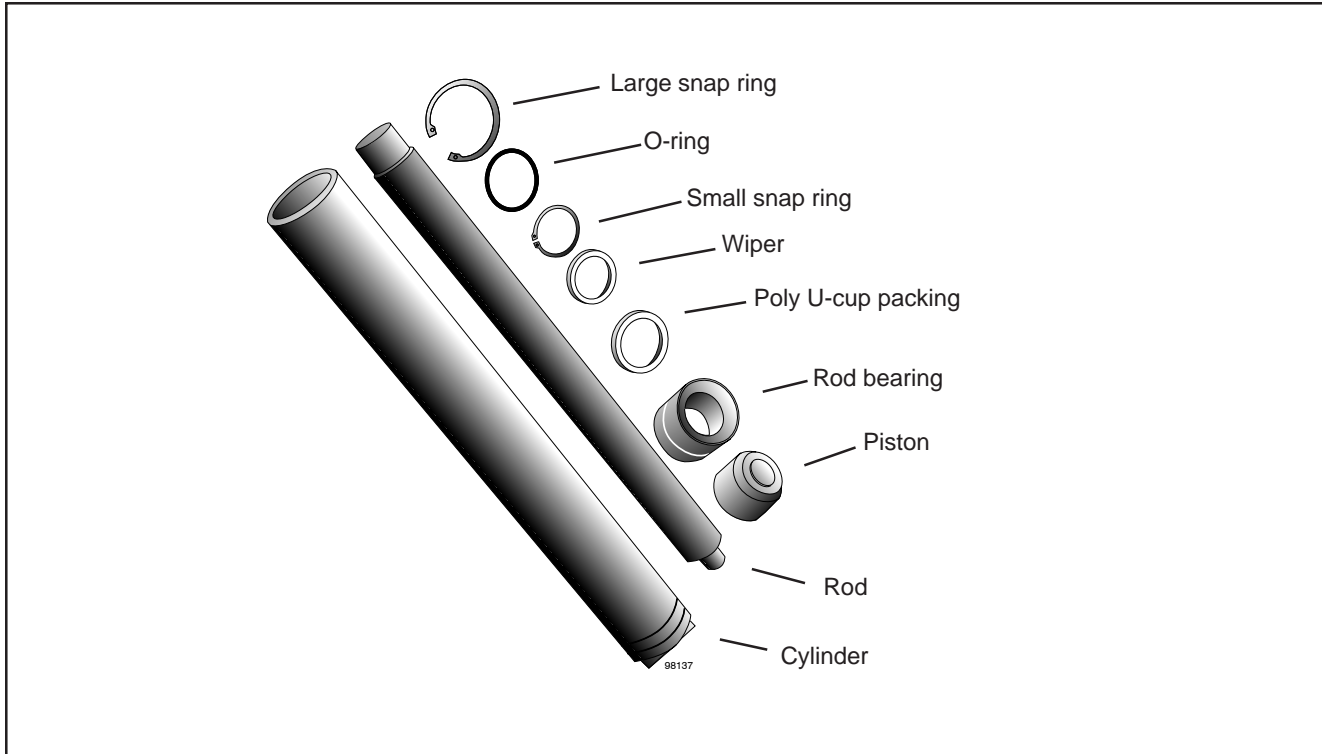

Fig. 8 – J-Style Cylinder
This section will tell you how to repack a "J-style" cylinder, shown in Fig. 8. This type of cylinder is exclusive to Southworth, and repacking kits are only available through Southworth. To order a repacking kit, please call the Parts Department at (207) 878-0700 or (800) 743-1000. When ordering, specify the model number and serial number of the lift, and the cylinder number(s), as listed on the base of the cylinder(s).
7. Figure 8 shows the parts inside a J-style cylinder. At the upper end of the cylinder rod, remove the large snap ring. Pull the rod and piston all the way out of the cylinder. This assembly is heavy! Be careful not to drop it as it comes free.
Be careful not to install the wiper backwards. The lip on the wiper should point upwards, as shown in the detail in Fig. 8.